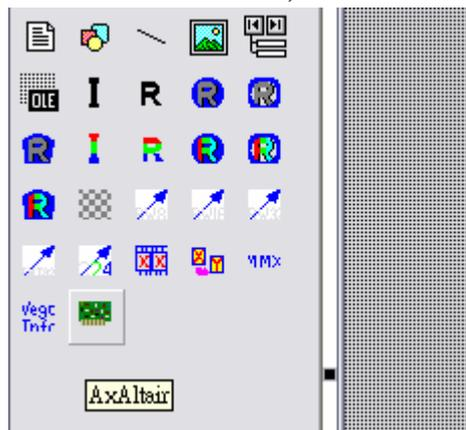

Figure 18
3. You can see the components in toolbox after finishing above procedures that name "AxAltair" and "AxCanvas", as shown in Figure 18.